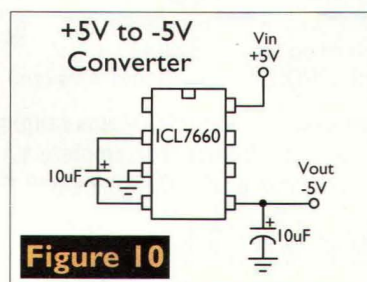
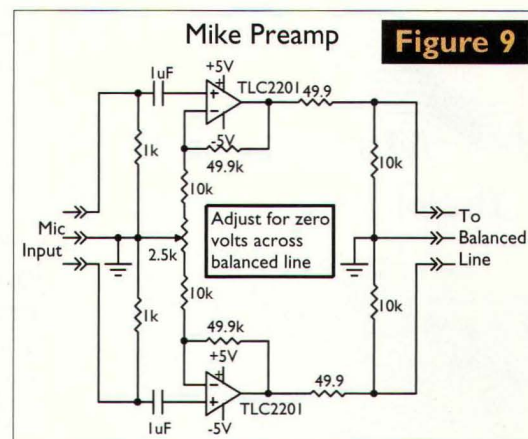

Figure 10
Figure 9
A. Try the circuit in Figure 9. The circuit is designed around a pair of precision, low-noise op-amps. Notice that a +5 volt and a -5 volt power supply is required to maintain the balance. A simple -5 volt supply can be made using an ICL7660 voltage converter chip (Figure 10).